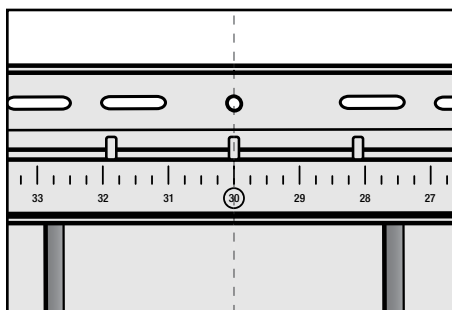

figure 5
7. Cut 30" off of the right side of the T5 shingle at indicator 30, which is located on the hanger below the nail slots, cutting straight through the panel (figure 5). Drill a 3/16" hole in the center of the nail hem and nail siding through this hole to control direction of expansion and contraction. Another option is to nail each end of a nail slot located at the center of the panel.